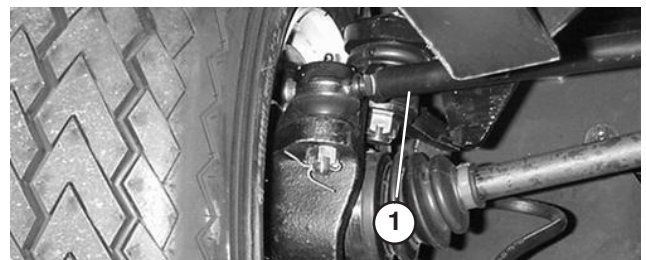

Figure 71
- On the right front wheel, loosen the jam nuts at both ends of the tie rod (Fig. 71).